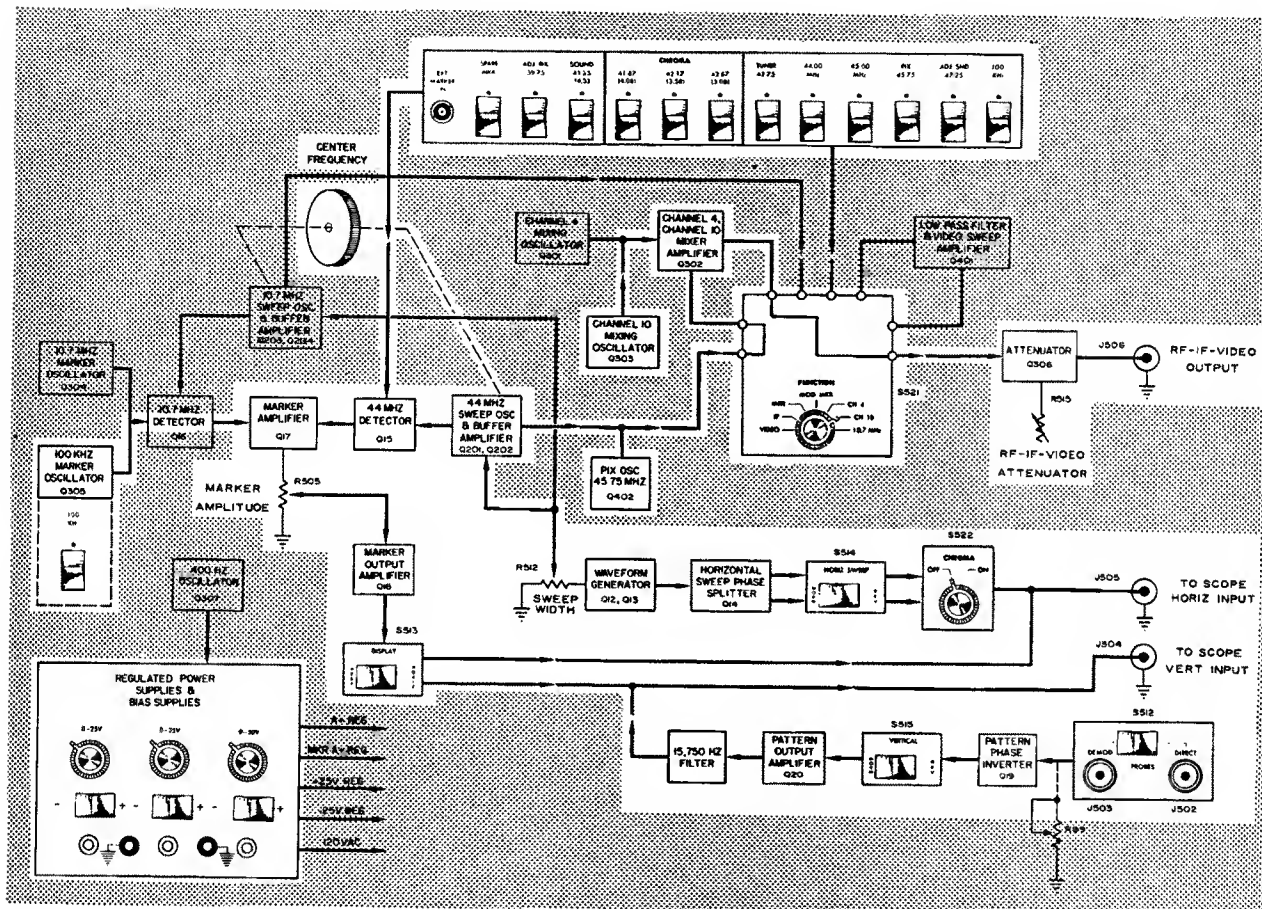

Figure 4.18 415 Block Diagram for CH 10 Function
4.2.6 CHANNEL 10 (Figures 4.18 and 4.19)